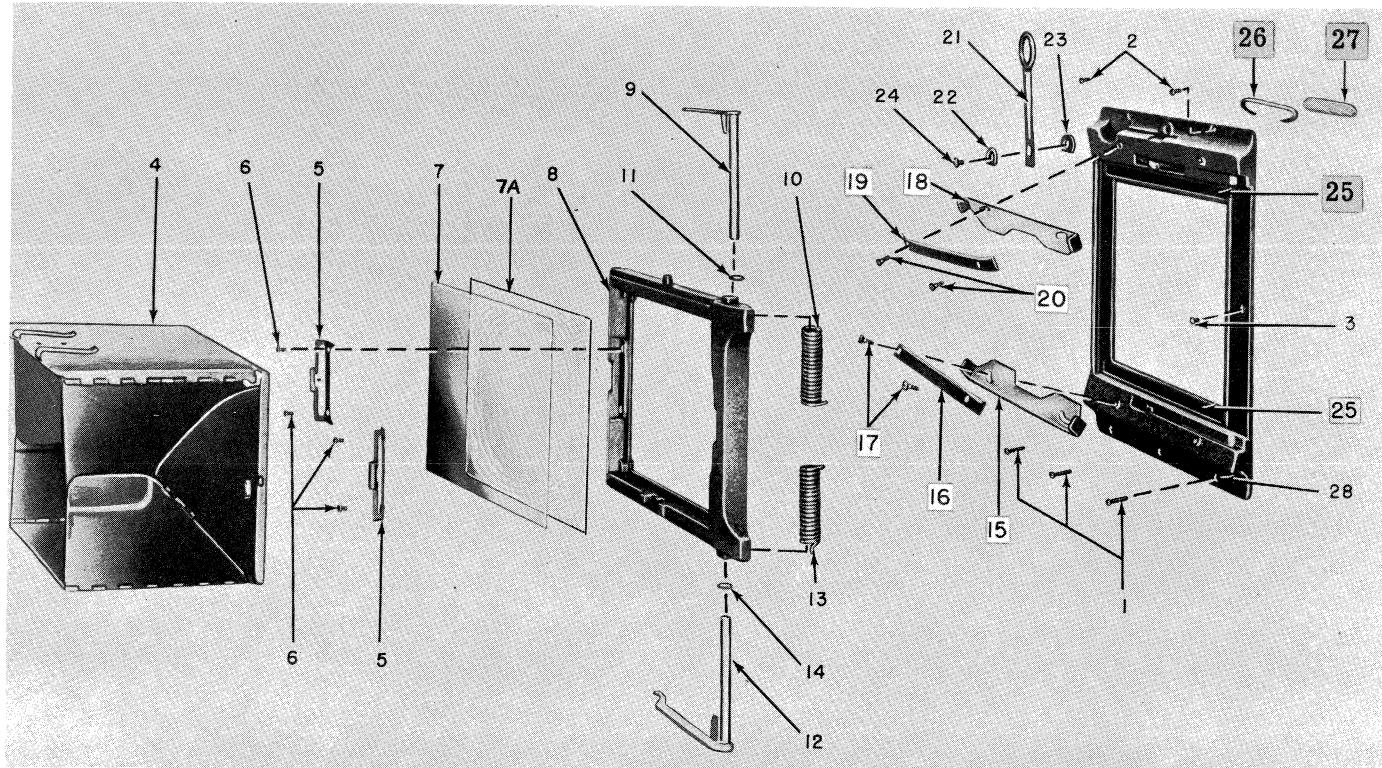

Figure 4. 4 x 5 Graflok Camera Back, Exploded View
1. Remove the focusing panel frame assembly by simultaneously pressing the knurled finger pads of the upper and lower arm assembly (9 and 12, figure 4) and slide the frame to the right, free of the arm hooks.
2. Remove the long self-tapping screws at the bottom (1), short self-tapping screws at the top (2) and one wood screw (3) at the right side, if used.
3. Remove the hood assembly (4) by pressing outward on the tab of the hood retainer (5).
4. Remove the focusing screen (7) and the two hood assembly retainers (5).
2. Check focusing frame (8, figure 4) and back (28) on a machined surface plate. If these parts do not lie flat they must be straightened.
2. Lubricate the sidelocks by wiping both sides lightly with a block of paraffin wax, Federal Specification VV-P-121a. Position the sidelocks (15 and 18, figure 4) so that the slots angle to the left and toward the center. Reassemble the sidelocks, the spring (16 or 19), and the special slide-lock screws(17 or 20) so that the screw shoulder fits within the slot of the sidelock.